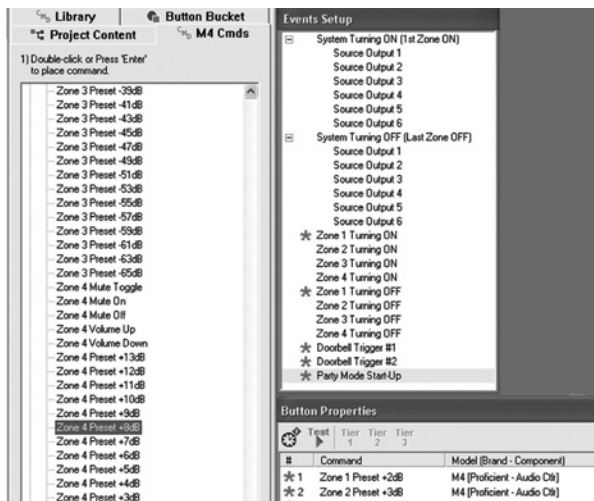

Figure 44 Placing Zone Preset Level Commands for Party Mode Start-Up
3. From the **Audio Level Commands** under the **M4 Library** tab, double-click **Zone 1 Preset** (or any other Preset value you want) to place it on the Command list. Test for appropriate level. Refer to **Figure 44**.